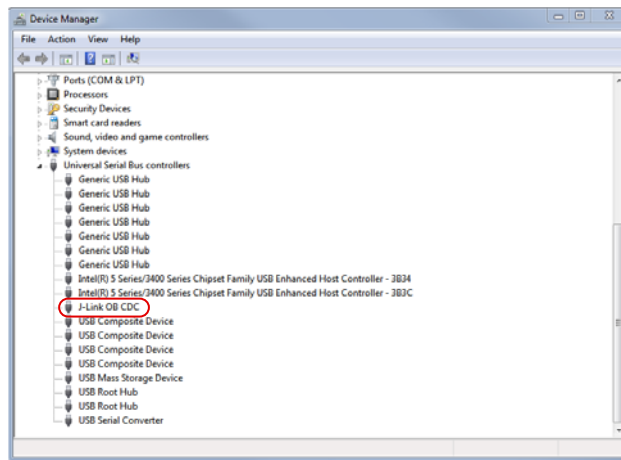

Figure 2. **Device Manager** Window
3. Verify that the emulator board appears in the Windows® **Device Manager** window (see Figure 2).